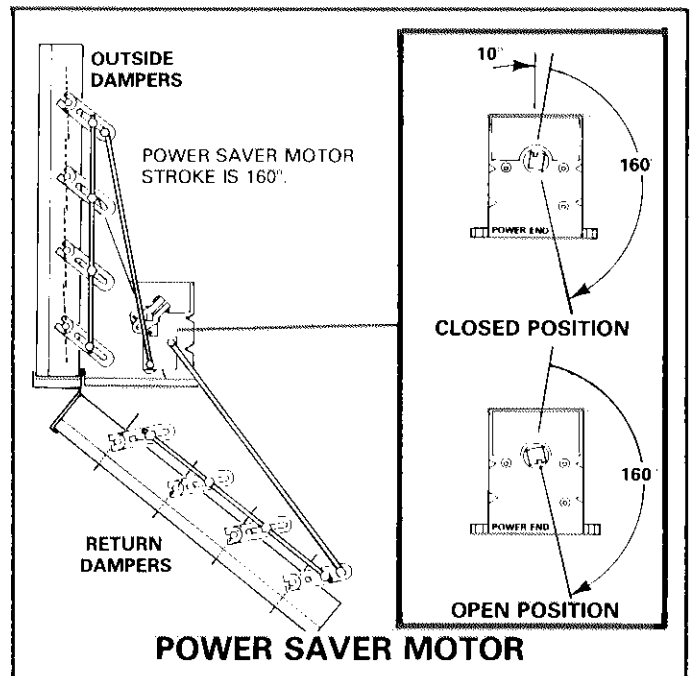

FIGURE 24
- 3 - The power saver motor includes a spring return feature which closes motor on a power failure. The motor stroke is 160 degrees as shown in Figure 24 and the timing is 40 seconds. With R-W terminals shorted or B leg open, the motor drives outside dampers closed. With R-B terminals shorted or W leg open, the motor drives outside dampers open.